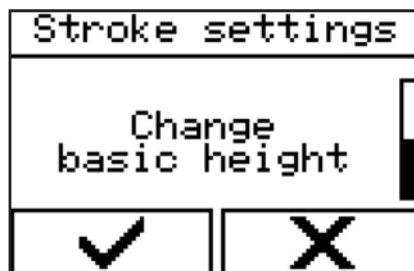

Figure 95 - Selecting a menu
1. Select the menu via 'Control' → 'Stroke settings' → 'Change basic height' (Figure 95).